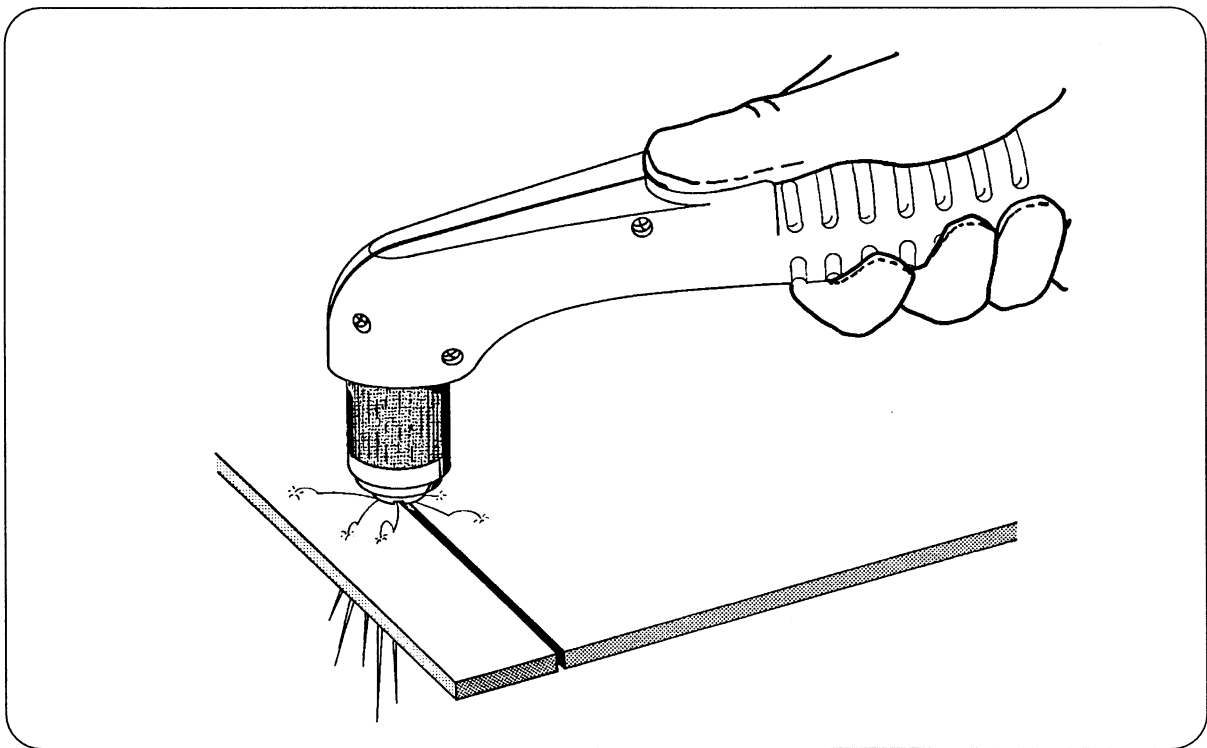

Figure 4-6 Dragging the Torch
- Hold the torch nozzle (tip) at a vertical position and watch the arc as it cuts along the line (Fig. 4-6). By lightly dragging the nozzle on the workpiece, you can maintain a steady cut. For straight-line cuts, use a straight edge as a guide.